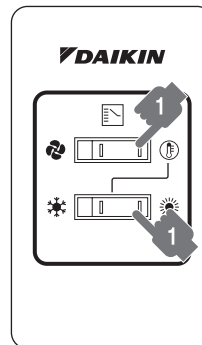

figure 7.2
- “” “” Heating operation (Refer to figure 7.2)